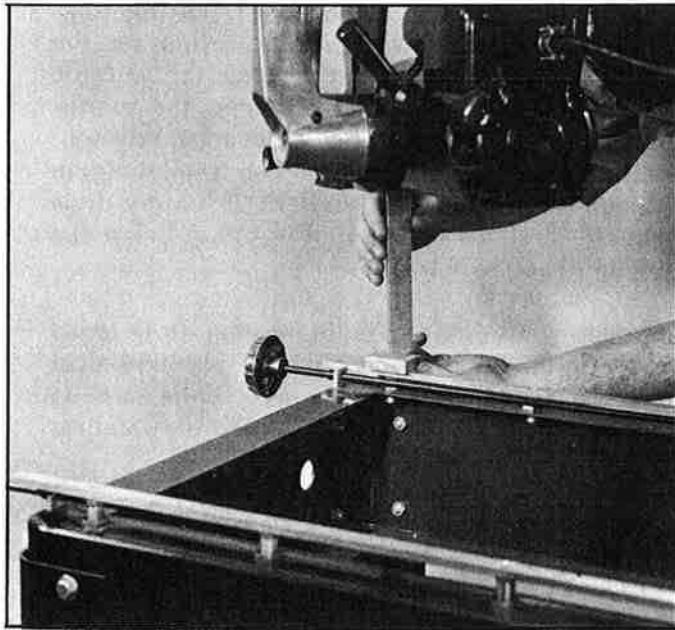

Fig. 16
9. Check the leveling strip at the front corners, as shown in Fig. 16, and adjust if necessary.